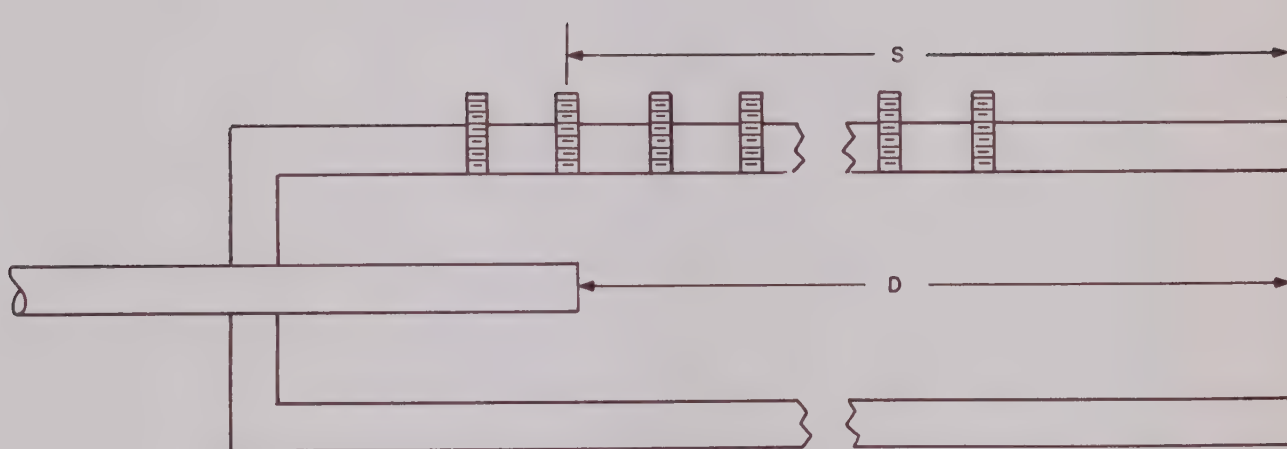

Figure 4-37. Models FIM-L2 and FIM-S2 Tuning Unit
- u. With the aid of a vernier caliper, determine the distance S from the end of the preselector subassembly to the center of the nearest preselector fine tuning adjustment screw, as shown in figure 4-37.
- v. Insert the vernier caliper into the preselector cavity and adjust the TUNING control to position the preselector tuning plunger beneath the center of the nearest preselector fine tuning adjustment screw. This corresponds to the distance D in figure 4-37.